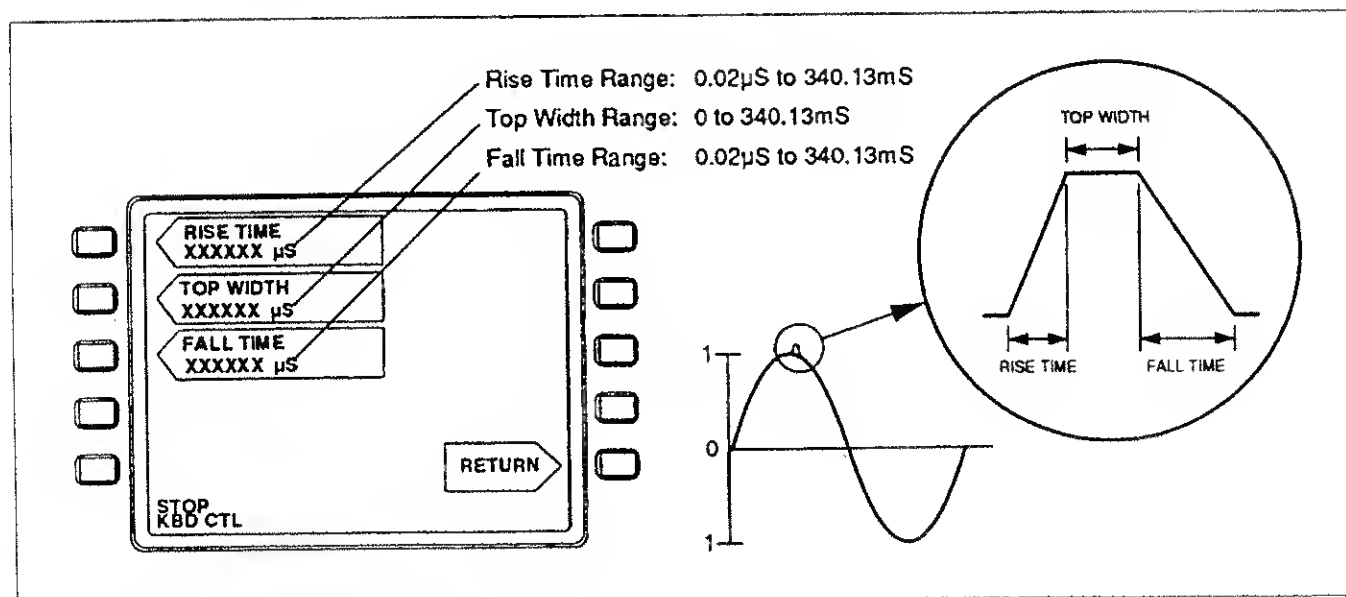

Figure 3-13. GLITCH SHAPE Submenu
- (3) Press the SHAPE Sofkey to define the actual shape of the glitch (Figure 3-13).